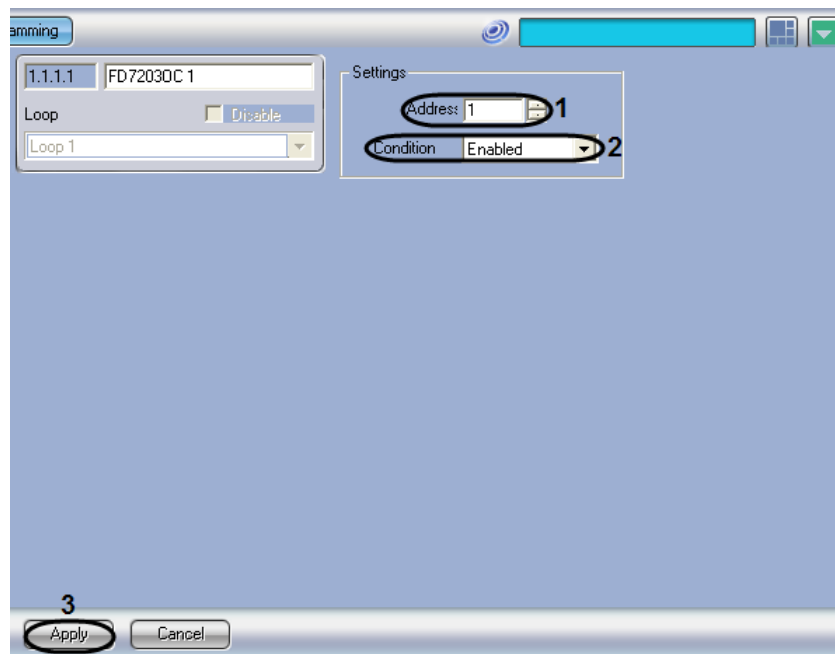

Fig. 3.6—9 Configuring the FD7203OC addressable module
2. Enter the CAN network address of the FD7203OC module into the “Address” field (see Fig. 3.6—9, 1).
3. Select Enabled/Disabled in the “Condition” field (see Fig. 3.6—9, 2).
4. To save the settings into the Intellect internal DB, click the “Apply” button (see Fig. 3.6—9, 3).